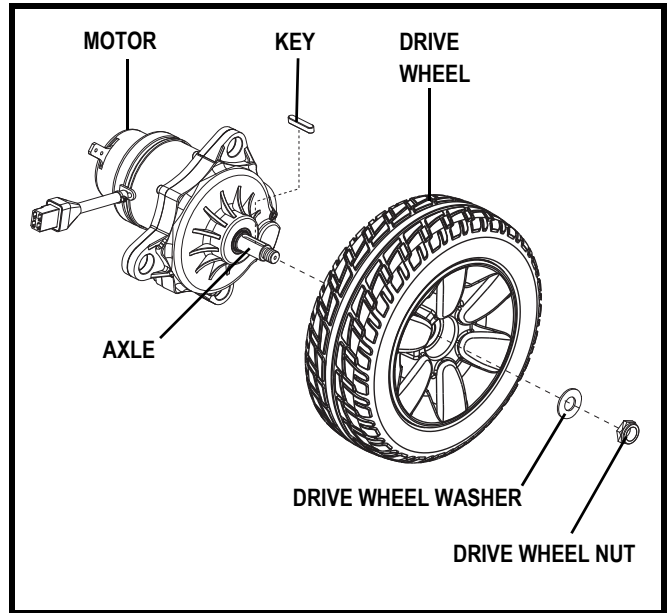

Figure 21. Jazzy Select Elite Drive Wheel Removal
4. Remove the drive wheel nut and washer from the axle. See **figure 21**.
8. Reinstall the drive wheel nut and washer onto the axle and tighten. See **figure 21**.